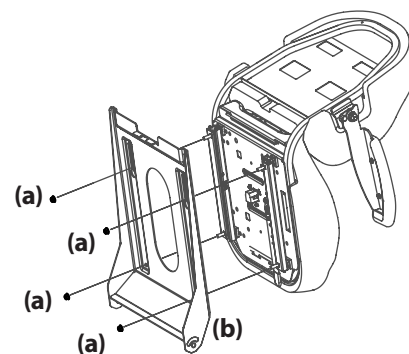

Figure 7
- Install the seat onto the seat pan (b) using flange lock nuts (a). See Figure 7.